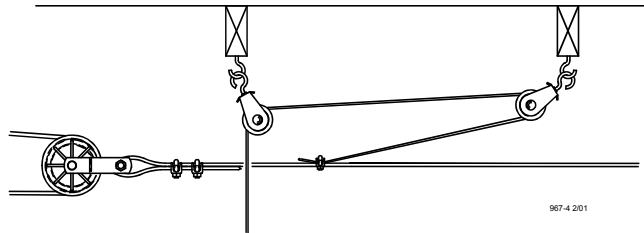

Figure 19. "Throwback" cable arrangement
3. Allow enough cable length for installation of the Adjustment Leveler. Sufficient cable is included to provide "throwbacks" on drops located beneath and near the winch. **Figure 19** shows a "throwback" cable arrangement.